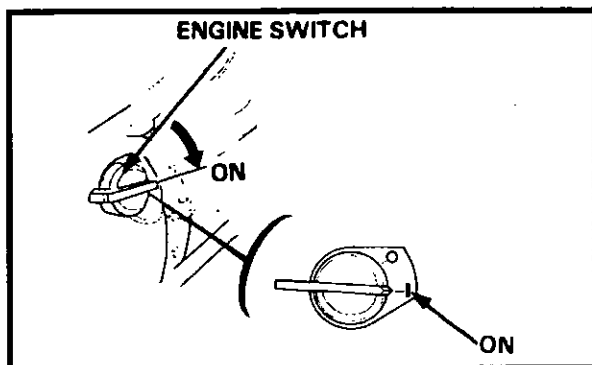

Figure 5-8 Engine ON/OFF Switch
4. Start the engine by turning the engine switch to the ON position = **I**. Refer Figure 5-8.